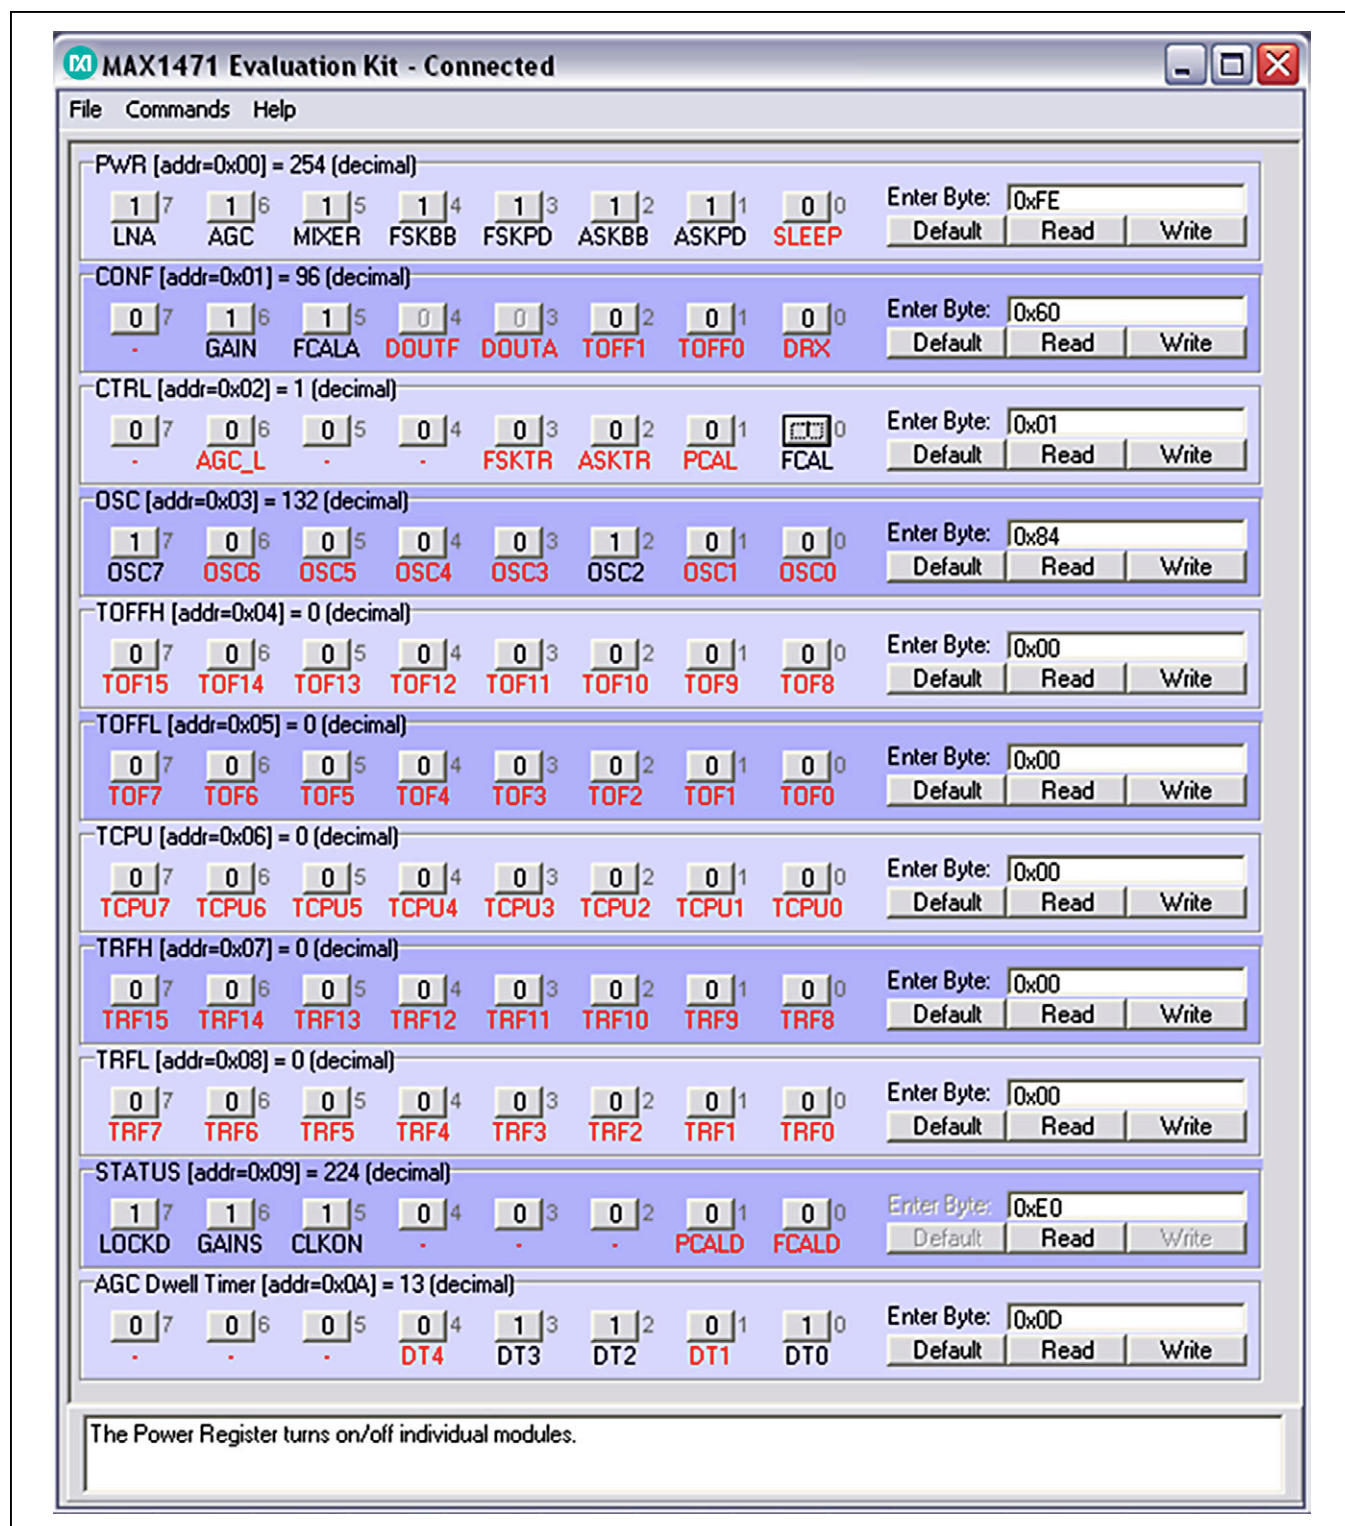

Figure 2. Control Display from MAX1471 Software (Display After PWR, CONF, CTRL, and OSC Rows Have Been Set)
- d. Click on the FCAL bit in the CTRL row, but do not click the "Write" button yet. At this point, the display should look like Figure 2. Notice that the FCAL bit is 1 and the FCALD bit in the STATUS row (near the bottom of the display) is 0.